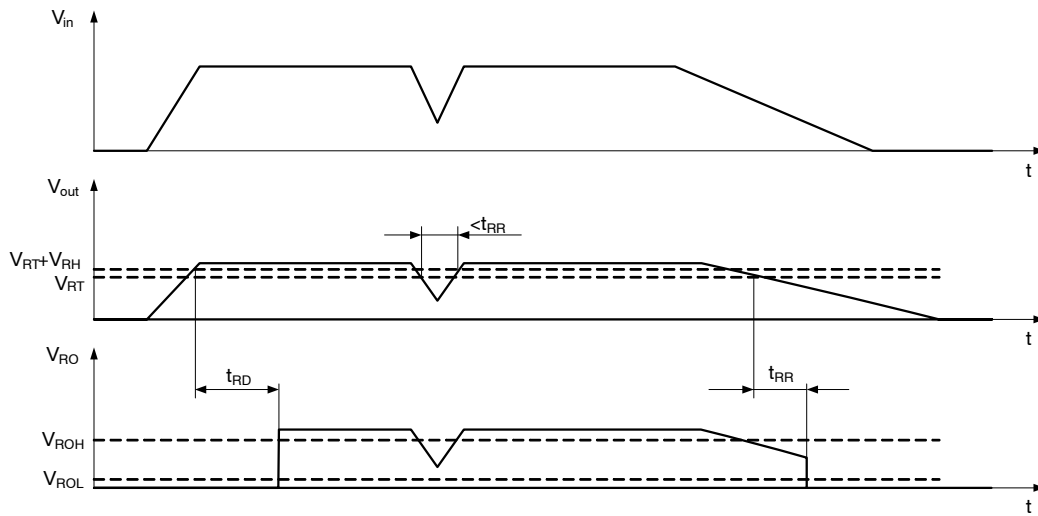

Figure 21. Reset Function and Timing Diagram
A reset signal is provided on the Reset Output (RO) pin to provide feedback to the microprocessor of an out of regulation condition. The timing diagram of reset function is shown in Figure 21. This is in the form of a logic signal on RO. Output voltage conditions below the RESET threshold cause RO to go low. The RO integrity is maintained down to Vout = 1.0 V. The Reset Output (RO) circuitry includes internal pull-up connected to the output (Vout) No external pull-up is necessary.